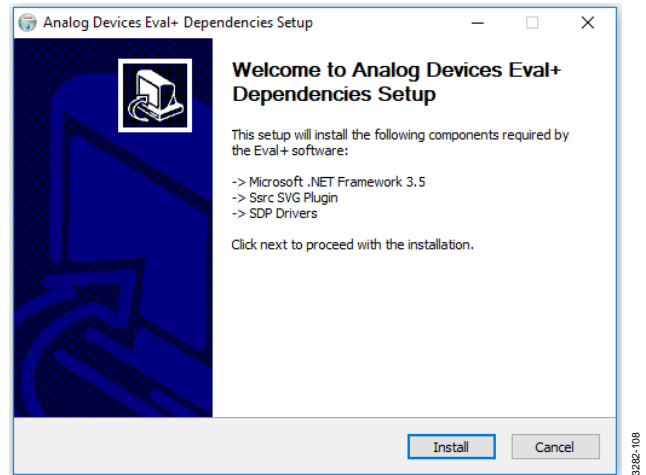

Figure 8. Beginning the Drivers Installation
1. Ensure that the **SDP-B** board is still disconnected from the USB port of the PC and that all other applications are closed, and then click **Install** (see Figure 8).